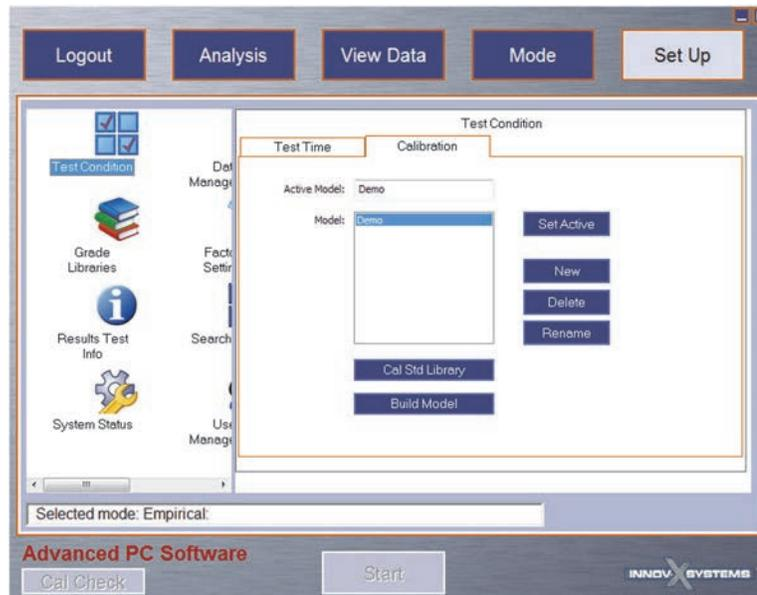

Figure 6-19 The Test Condition pane – model selected
1. On the **Test Condition** pane, click the **Calibration** tab, and then select a model from the **Model** list (see Figure 6-19 on page 93).